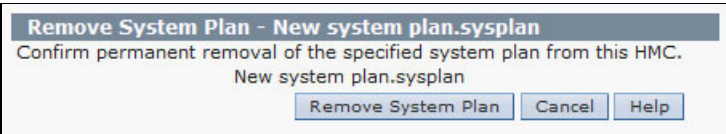

Figure 2-13 Confirm removal of system plan window
2. Click **Remove System Plan** either from the Tasks menu or the content Tasks link in the lower portion of the window. A confirmation message displays asking if you are sure that you want to delete the file (Figure 2-13).